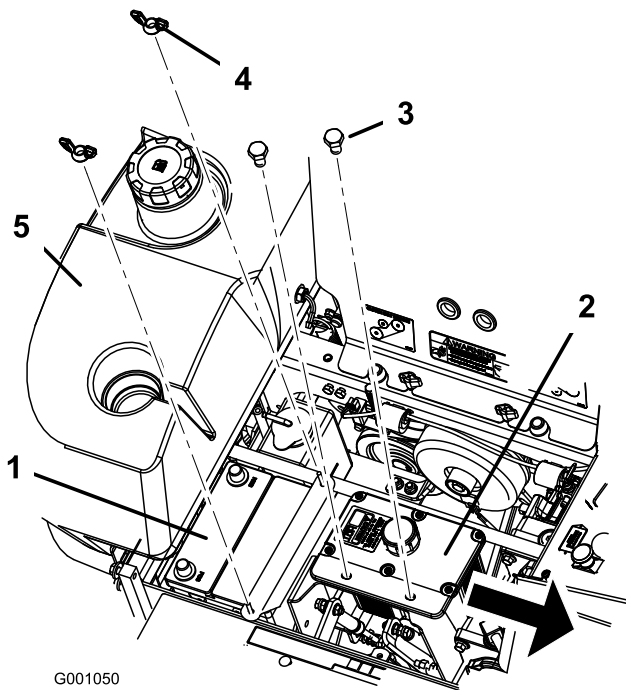

Figure 57
6. Remove both wing nuts (1/4 inch) securing the battery clamp (Figure 57).
7. Remove the bolts holding the hydraulic tank in place (Figure 57).
1. Position the battery in the tray with the terminal posts opposite from the hydraulic tank (Figure 57).
6. Secure battery with J-bolts, hold down clamp, 2 washers (1/4 inch), and 2 wing nuts (1/4 inch) (Figure 57).